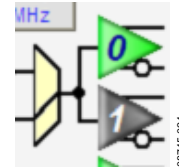
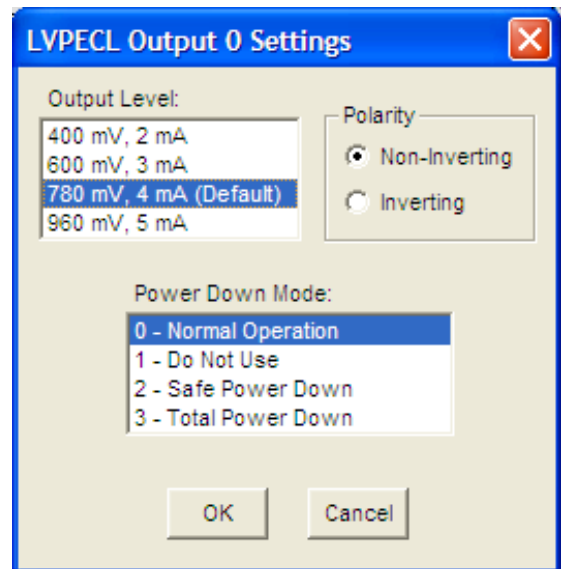

Figure 7. Driver Symbol
Figure 20. LVPECL Output 0 Driver Window
11. Power down unused drivers, click the numbered triangular symbol on the right side of the main window (see Figure 7), select 2 - Safe Power Down, and click OK (see Figure 20).
The LVPECL Output 0 Settings window shown in Figure 20 is accessed by clicking the OUT0 through OUT5 output driver symbols on the right side of the main window (see Figure 19).